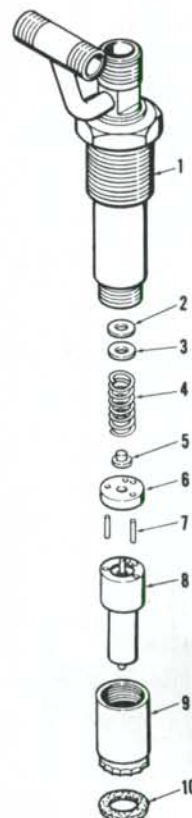

Fig. 73—Exploded view of American Bosch Injector. Robert Bosch Injector is similar.
All tractors use American Bosch or Robert Bosch injectors which are shown in exploded view Fig. 73.
Wash injector lines and surrounding area with clean diesel fuel or solvent to remove any dirt accumulation. Disconnect leak-off line nuts from each side of injector, then using a 11/16 inch crowsfoot wrench disconnect inlet fitting from injector using caution not to damage leak-off fitting. Use a 7/8 inch crowsfoot wrench and unscrew injector retaining nut, then remove injector by pulling upward and turning injector slightly. If gasket (10—Fig. 73) did not come out with injector, remove it from injector bore with a suitable tool or hooked wire. Gasket (10) must be renewed each time injector is removed.
NOTE: If adjusting a new injector, or a used injector with a new spring (4—Fig. 73), opening pressure should be 3950-4100 psi (27235-28270 kPa).
84. OVERHAUL. Soak injector in a carbon removing solvent and clean outside of injector thoroughly. Clamp a 3/8 inch open end wrench in a vise to serve as a holding fixture, then place injector upright in wrench. Use a 15 mm box end wrench to remove cap nut (9—Fig. 73) and BE SURE that nozzle (8) does not turn with cap nut. If nozzle does turn with cap nut, dowels (7) and/or valve stop (6) will be damaged. Return injector to solvent if nozzle is stuck to cap nut.